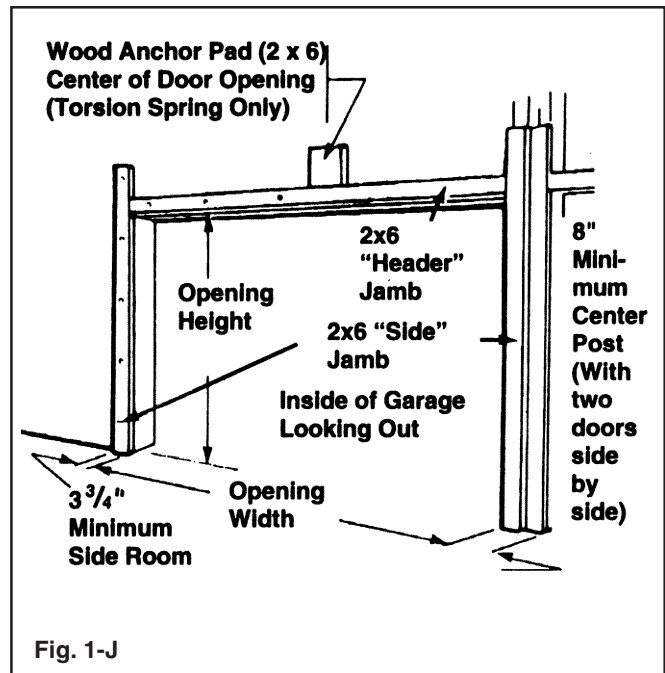
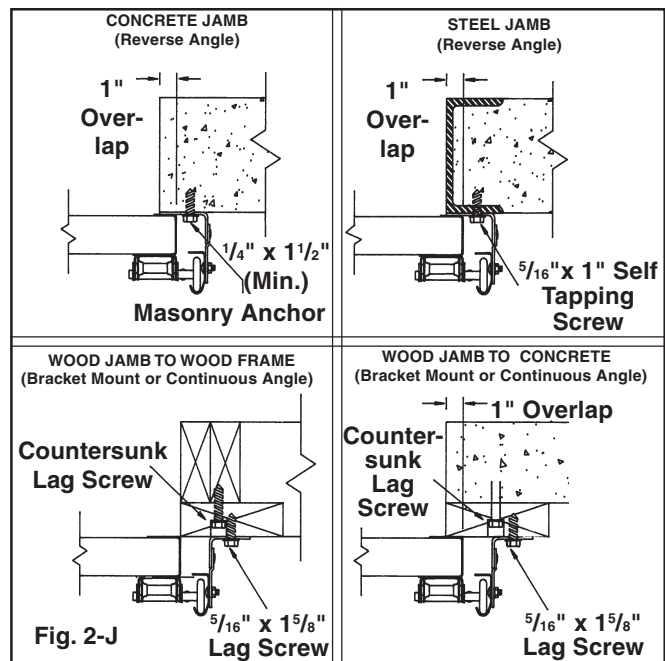

Fig. 1-J
Fig. 2-J
Step 1: On the inside of the garage your opening should be framed with wood jambs, 2" x 6" if possible, or with steel channel as shown in Figure 1-J. The side jambs should extend to approximately the same height as the headroom required. If you have just removed an old door, the condition of the jambs should be inspected. If the jamb has deteriorated, it should be replaced now. The jambs should be plumb and the header level. If there are any bolts fastening the jambs to the wall, the heads should be flush so they don't interfere with the installation of your new door. (FIG. 1-J) Typical installation for wood, steel or masonry jamb material is shown in Figure 2-J.